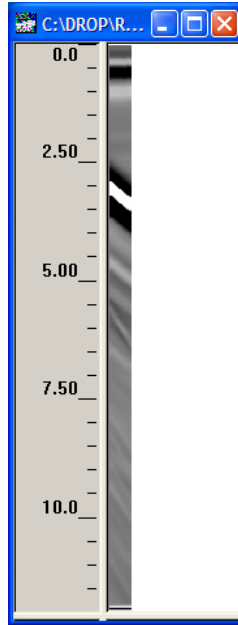

Figure 49: Typical processed 2 GHz horn antenna calibration file (*.CZT).
Once all of the parameters are set in the Calibration Menu, click OK to begin execution. A typical *.CZT output file for the 2 GHz horn antenna is shown in Figure 49. It is a good idea to save the .CZT file with an easily remembered name to be able to quickly identify it during processing. RADAN also has a special folder called Horn Cal. If you like, you can save your CZT file to that folder. When you run the Reflection Picking process in the next step, RADAN will ask if you would like to search for a CZT file in this folder. It may help to keep things organized.
- 3** After clicking the icon, you will see a window like the one in Figure 49. The process will prompt you to specify an antenna calibration file. This is the file that you created in Part 4.1.